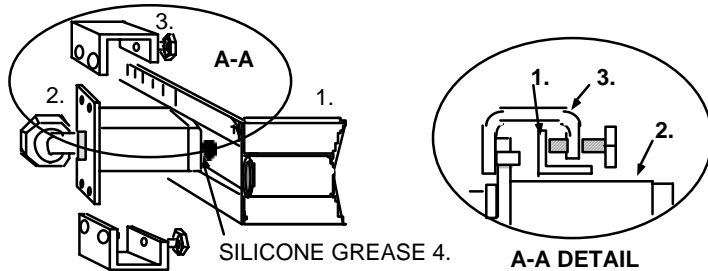

FIG. 4
10. Use the Allen wrench and turn the tension holder screw (10) counterclockwise until the probe holder is tight against the pipe.
Place a single bead of silicone grease (4) longitudinally along the PVC face of the sensor. Slide sensor (2) into sensor holder (1), note that the sensor cable (yellow) will be pointing toward the other sensor (Fig. 4). Use sensor clamp (3) and place the top over the sensor with nubs in sensor holes and place the bottom of the clamp on the bottom of the rail of the sensor holder. (See A-A detail)